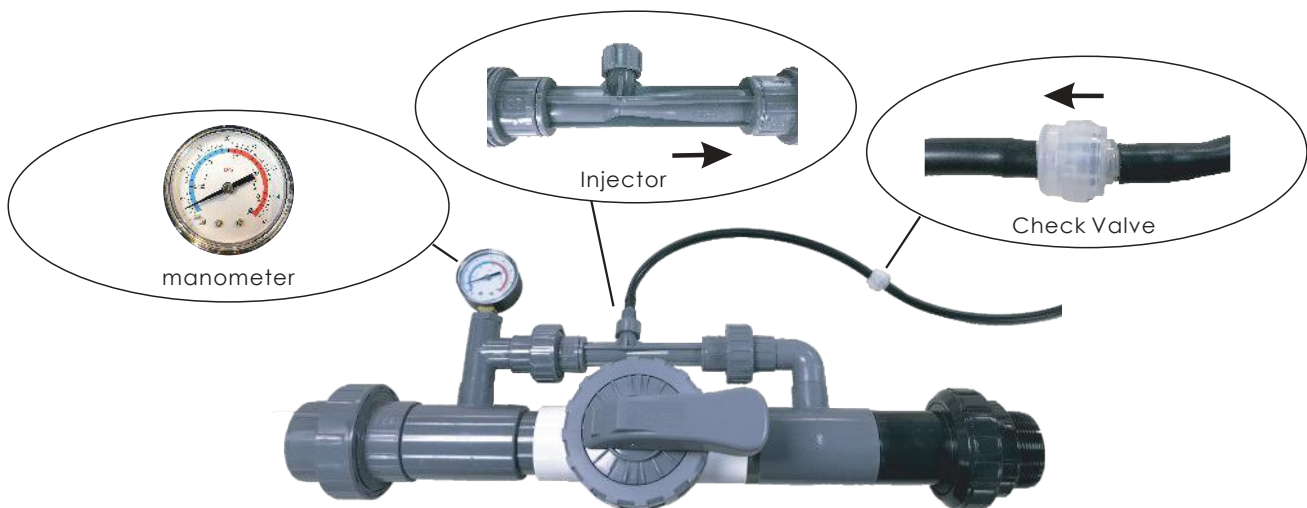

Fig 4
2. Insert the thread socket into the inlet UV connection. The other side of the socket will be connected with PVC glue to the entire Venturi circuit. The Venturi circuit must be installed in a horizontal position. (Fig 4)